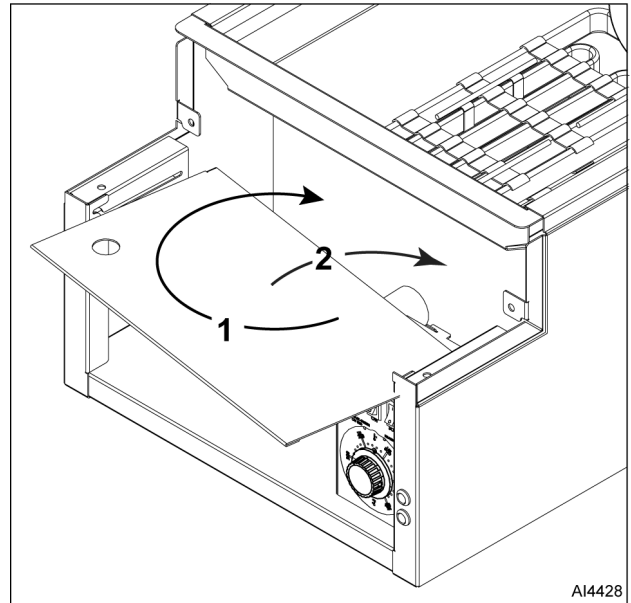

Fig. 5
2. Rotate and lift to remove fryer door plate (Fig. 5).